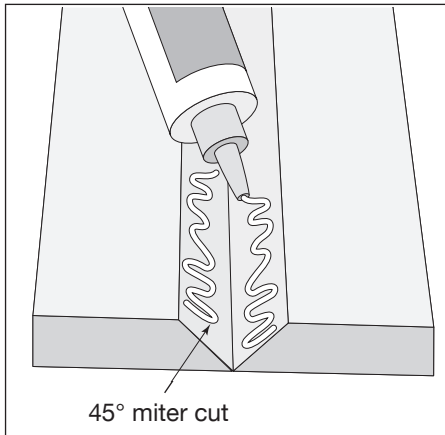

Fig. 12
- Cut trim pieces with opposing 45° angle cuts to form a 90° corner when joined (**Fig. 12**)
- Apply premium polyurethane-based glue and clamp the miter joint (**Fig. 12 & 13**)